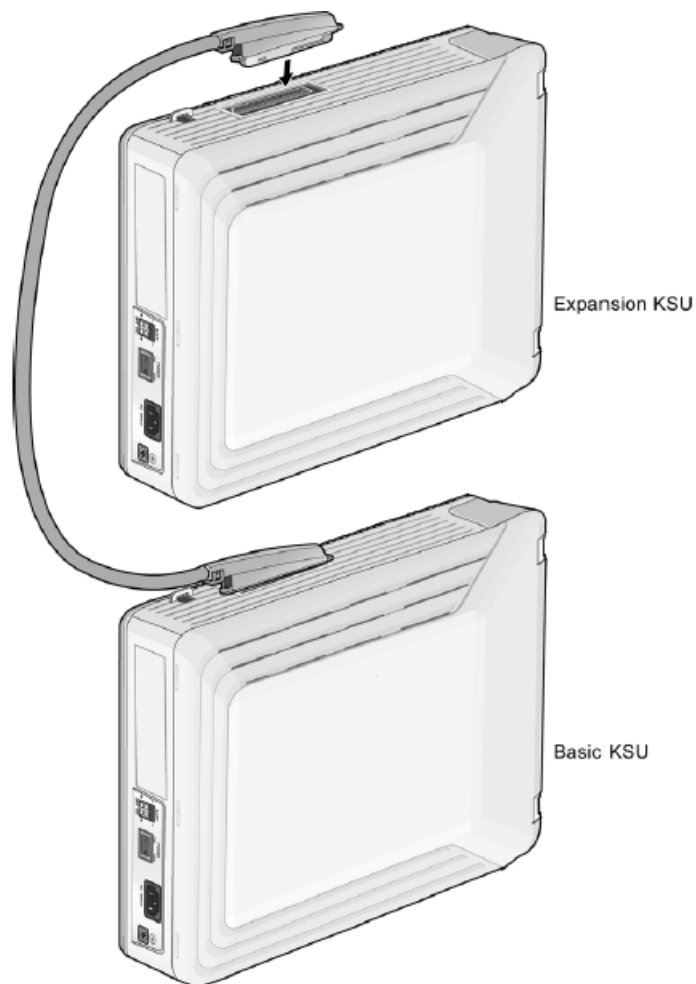

Figure 3-9 Connecting KSUs
2. Use the link cable to connect the Basic KSU to the Expansion KSU (as shown in Figure 3-9).